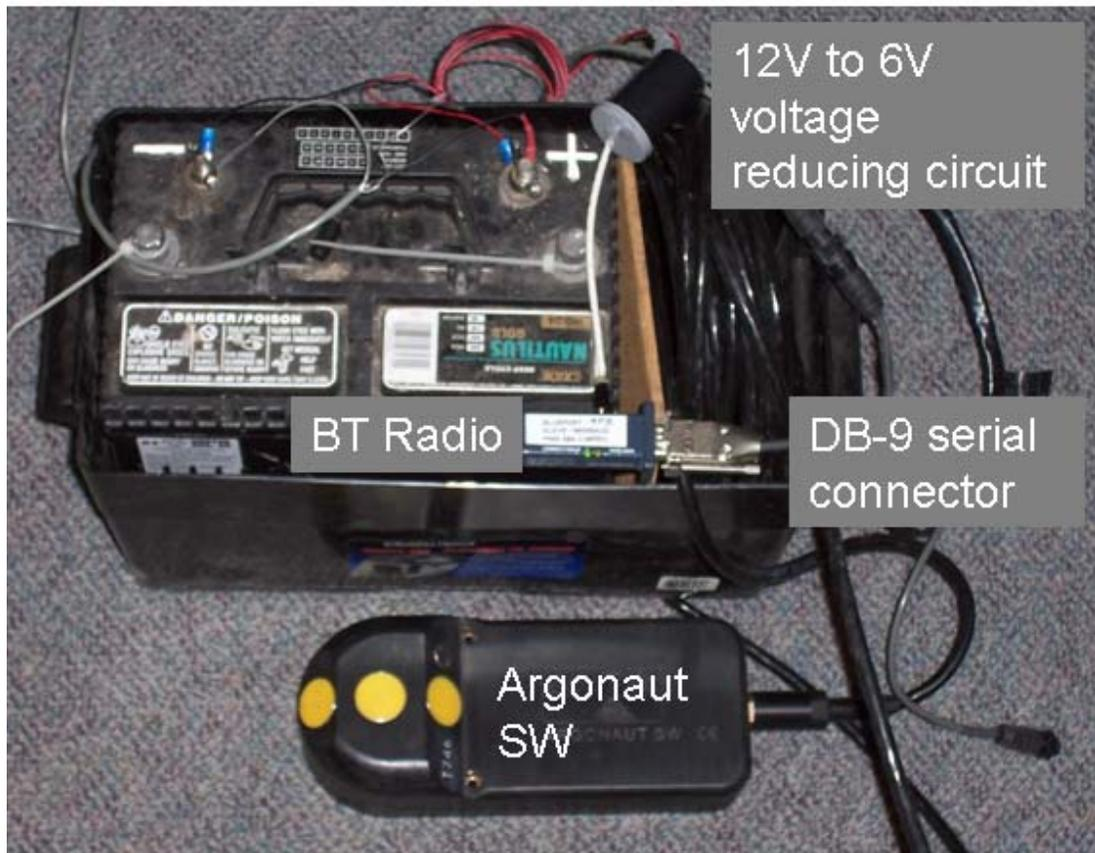

Figure 1. Photograph of Argonaut SW flowmeter, 12V battery, voltage reducing circuit, and the serial connector attached to the BT radio.
On a recent project, I needed to check the status of an acoustic flowmeter without having to slog through a mosquito infested wetland to check the battery voltage or to download data. I found an inexpensive wireless solution that was described as a wireless RS-232 serial cable replacement. The equipment I purchased (for under \$200) was a BT radio pair that was used to create a BT (virtual) serial port profile on a laptop computer that can be used to talk to a second transceiver attached to the flowmeter's RS-232 connector (see figure 1). This system can be used in two modes: (1) Using a pair of
It is important to note that the system voltage reported by the flowmeter was consistently 0.5V lower than the voltage measured using a voltmeter. Another important detail is that the BT radio operates using 4 to 9VDC and it requires a separate battery or a voltage reducing circuit to use the 12V battery powering the flowmeter. Figure 1 shows a photograph of the flowmeter configuration used for the bench test. As previously mentioned, these radios have power saving features, such as sleep and sniffer modes that can be used to reduce power consumption.